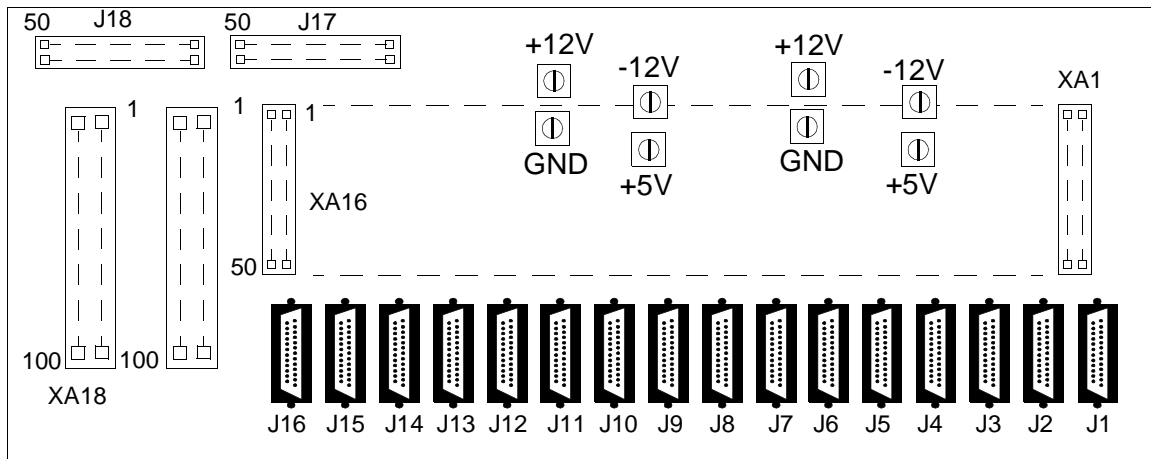

Figure 4-3 Power Supply Connectors on TMSC Expansion Harness Card
4. The location of the power supply connectors on the TMSC Expansion Harness Card are shown in *Figure 4-3*. *Table 4-1* lists the wire color coding for the power supply harness.